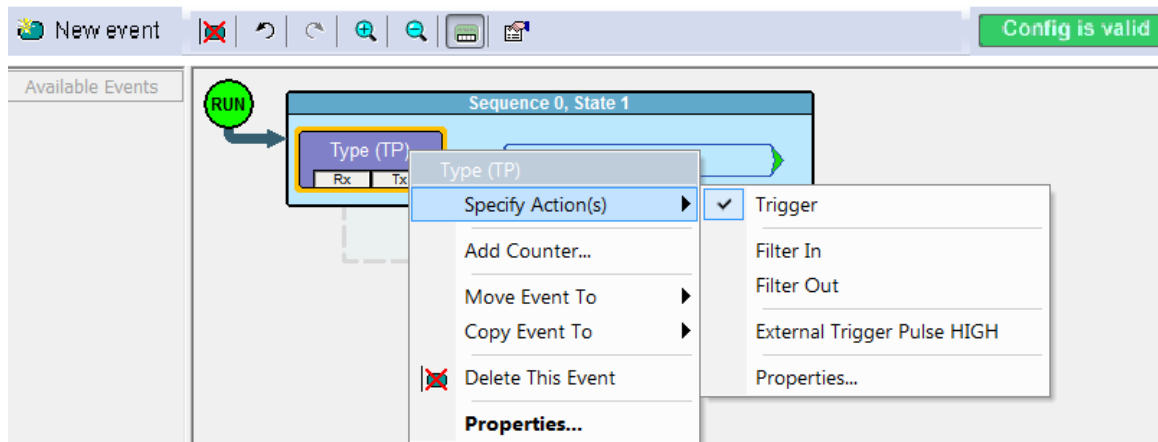

Figure 10.24: Assigning Action to Event Button
1. Right-click the **Event** button to display a pop-up menu (see Figure 10.24 on page 302.)